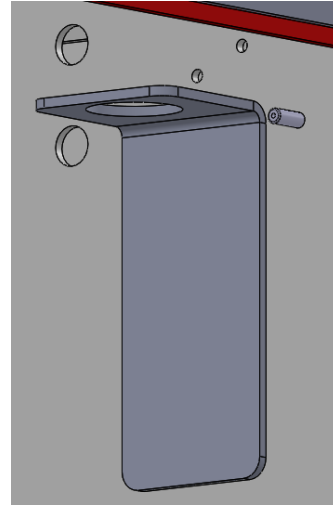

Fig. 10
- 11 Install the regulator mounting bracket by adhering it to the back of the water bottle housing near the ground stud; see Fig. 10.